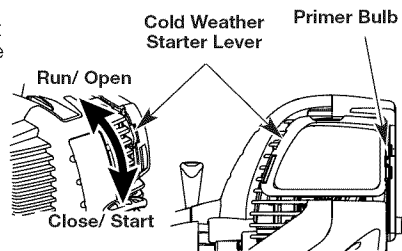

Fig. 10
IF COLD... For cold weather conditions (below 40°F), flip the Cold Weather Start Lever (Fig. 10) down to the start/closed position and continue to step 3. DO NOT flip this lever down if the temperature is above 40°F.
3. Fully press and release the primer bulb 10 times, slowly. Some amount of fuel should be visible in the primer bulb (Fig. 10). If fuel can not be seen in the bulb, press and release the bulb until fuel is visible.